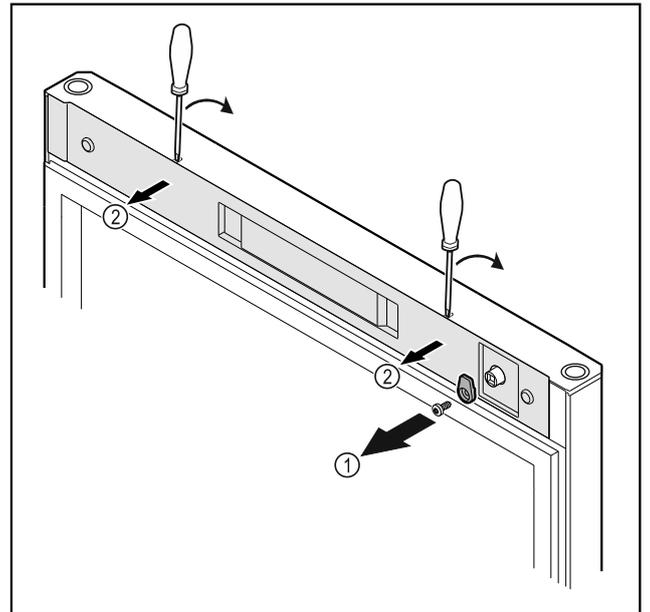

Fig. 10
- ▶ Unscrew the door latch Fig. 10 (1).
- ▶ Unlatch the cover Fig. 10 (2) with a small screwdriver and remove it.